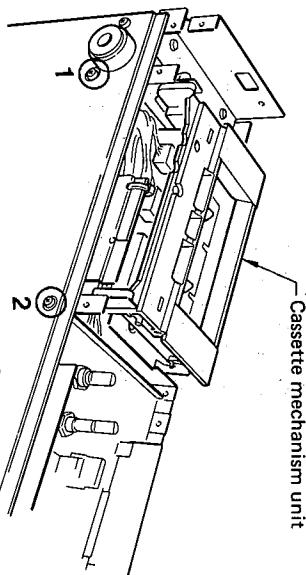

Fig. 4
- d. Remove screws ① and ③ in fig. 4, and you can remove the cassette mechanism unit.
- d. Remove screws ② and ③ in fig. 4, and you can remove the cassette mechanism unit.
h. Remove screws ② and ③ in fig. 4, and you can remove the cassette mechanism unit.
l. Remove screws ② and ③ in fig. 4, and you can remove the cassette mechanism unit.
p. Remove screws ② and ③ in fig. 4, and you can remove the cassette mechanism unit.
t. Remove screws ② and ③ in fig. 4, and you can remove the cassette mechanism unit.
x. Remove screws ② and ③ in fig. 4, and you can remove the cassette mechanism unit.
bb. Remove screws ② and ③ in fig. 4, and you can remove the cassette mechanism unit.
ff. Remove screws ② and ③ in fig. 4, and you can remove the cassette mechanism unit.
jj. Remove screws ② and ③ in fig. 4, and you can remove the cassette mechanism unit.
nn. Remove screws ② and ③ in fig. 4, and you can remove the cassette mechanism unit.
rr. Remove screws ② and ③ in fig. 4, and you can remove the cassette mechanism unit.
vv. Remove screws ② and ③ in fig. 4, and you can remove the cassette mechanism unit.
zz. Remove screws ② and ③ in fig. 4, and you can remove the cassette mechanism unit.